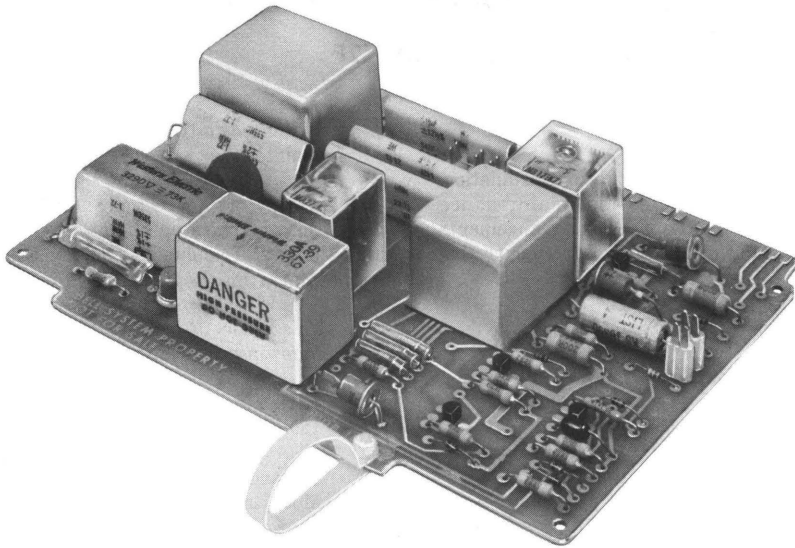

Fig. 1—120C Interconnecting Unit
- Rate the 120B IU MD, now replaced by the 120C (Fig. 1)
- Unit, Interconnecting, ♦120C♦ —one per PCA STP or C2F (Fig. 1).
**Note:** Any 120-type IU can be used with PCA STP, but a ♦120B(MD) or 120C♦ is always required with PCA C2F.